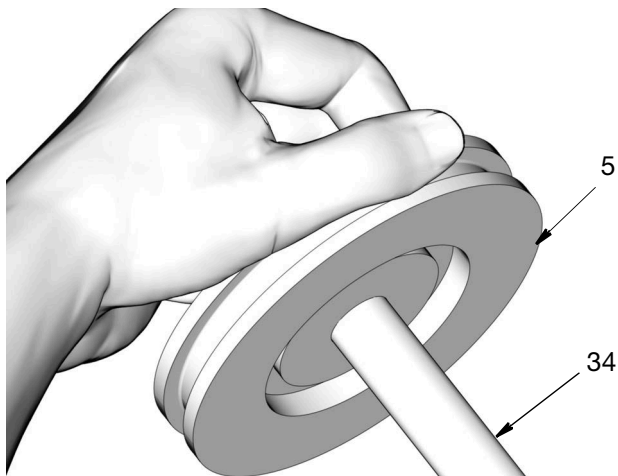

FIG. 31
6. Push the piston (5) over end of the piston rod (34) until seated on the rod (FIG. 31).